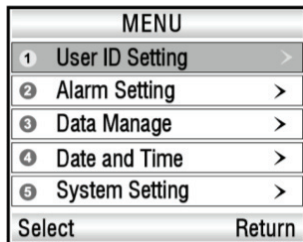

Fig.4-1
1) Press the power switch for 3 seconds to power on the oximeter and then press the menu button to enter the main menu, refer to the fig.4-1.